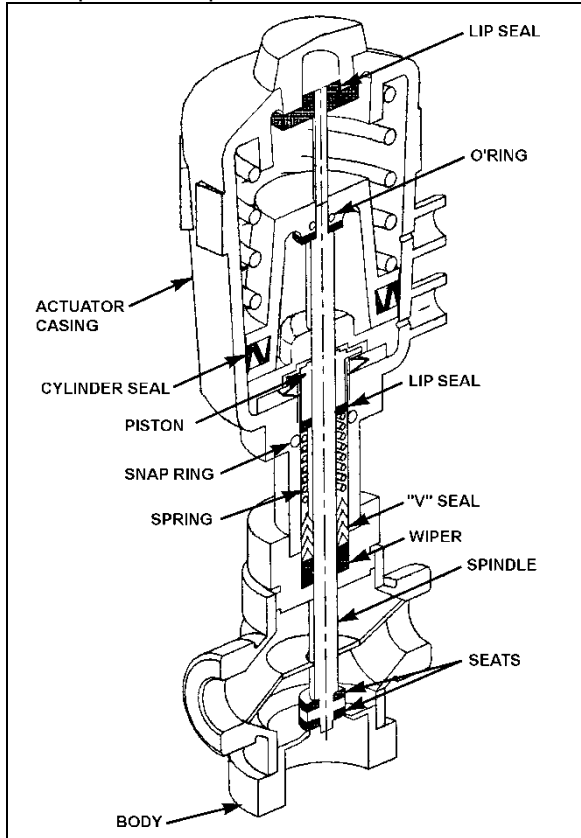

FIGURE 58: PNEUMATIC WATER VALVE
2. The water valve need not be removed from the line. Unscrew nipple, the actuator casing, tube, spindle and closure member can be removed (Figure 58).
2. Tighten the nipple in place in the body cavity as per Figure 58. Fasten pilot solenoid valve to the pneumatic water valve. Reconnect air supply pressure and electrical current to the pilot solenoid valve.